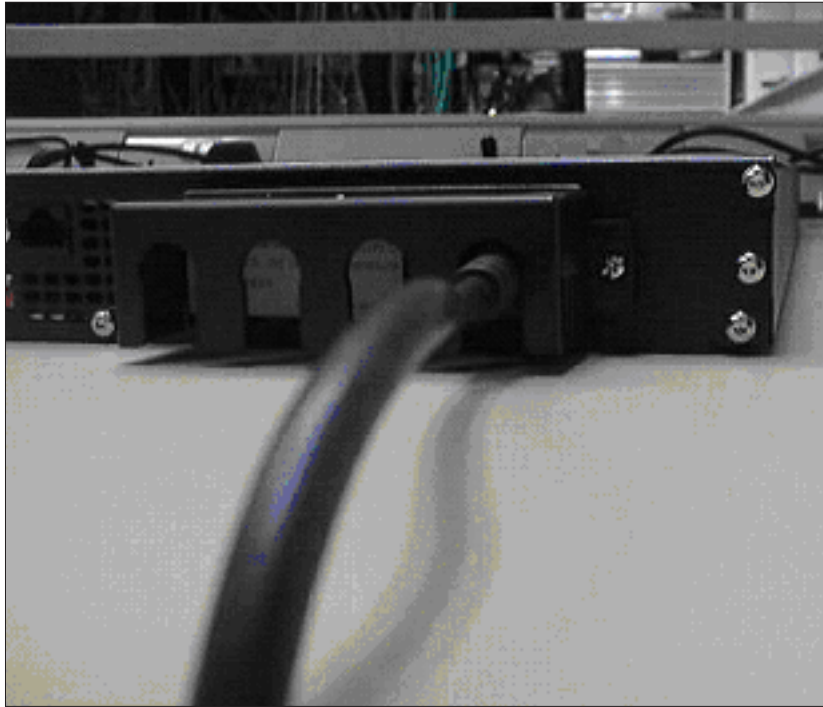
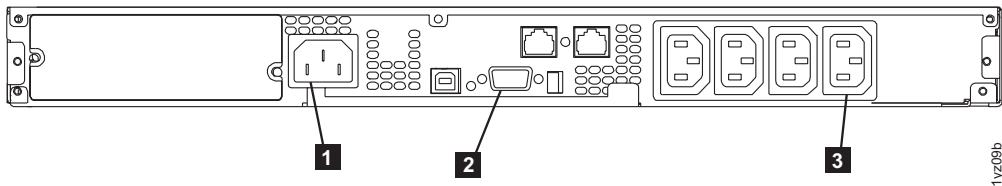

Figure 272. The 2145-1U uninterruptible power supply cable retention bracket connected to the 2145-1U uninterruptible power supply
Figure 273. 2145-1U uninterruptible power supply (rear view)
9. At the back of the 2145-1U uninterruptible power supply, connect the SAN Volume Controller power cable to load segment 2 receptacle (**3** in Figure 273 on page 600). If applicable, install the power cable retention bracket (shown in Figure 272 on page 600).
10. Reconnect the SAN Volume Controller signal cable to the communication port (**2** in Figure 273).
11. Reconnect the 2145-1U uninterruptible power supply main power cable, from either the power distribution unit or from the redundant ac power switch, into the input connector (**1** in Figure 273).
The 2145-1U uninterruptible power supply is now in standby mode with the SAN Volume Controller offline. All indicators that are shown in Figure 273 are off.